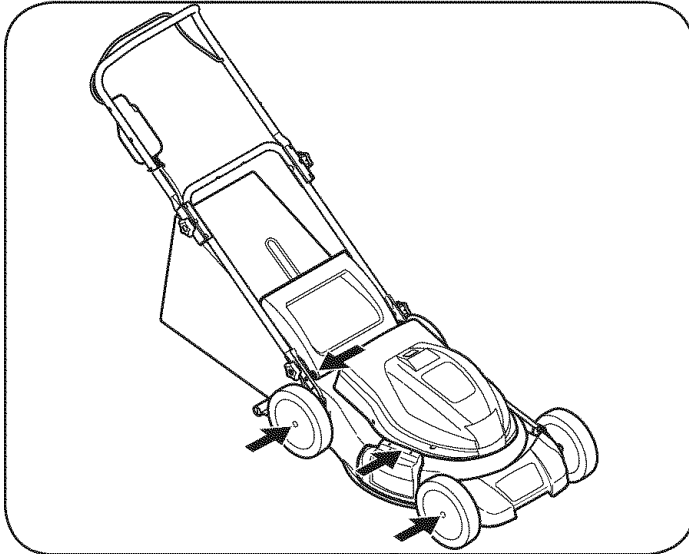

Figure 9
- Lubricate the wheels at least once a season with light oil (or motor oil). If wheels are removed for any reason, lubricate surface of the pivot arm and inner surface of the wheel with light oil. See Figure 9.
- Lubricate the torsion spring and pivot point on the rear discharge door and side mulch plug periodically with light oil to prevent rust. See Figure 9.